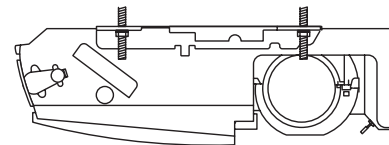

Fig. 2-78
- c) Tighten the 2 hexagonal nuts on each suspension bolt to suspend the indoor unit as shown in Fig. 2-78.